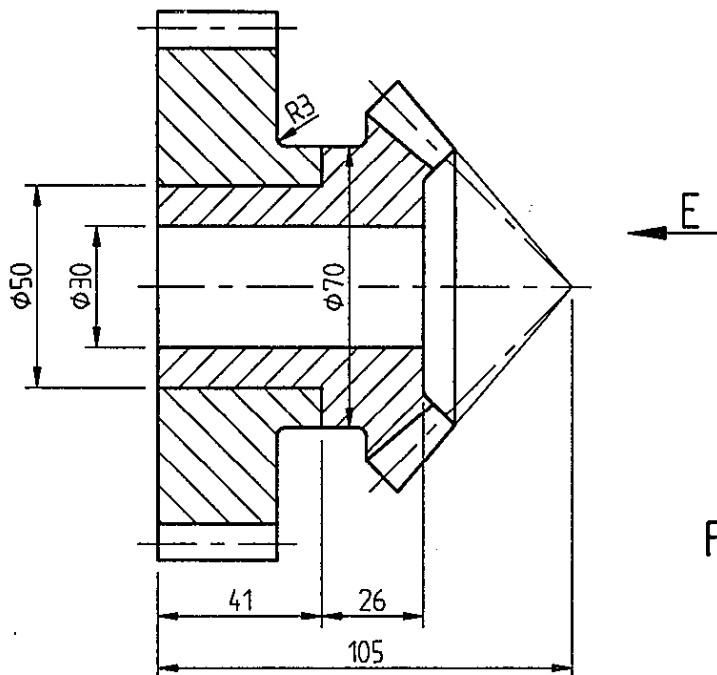

FIG. 3
- (b) A sectional elevation of a compound gear assembly is shown in Fig. 3. Given the following data, calculate the main sizes for the gears, and draw the following views of the assembly: